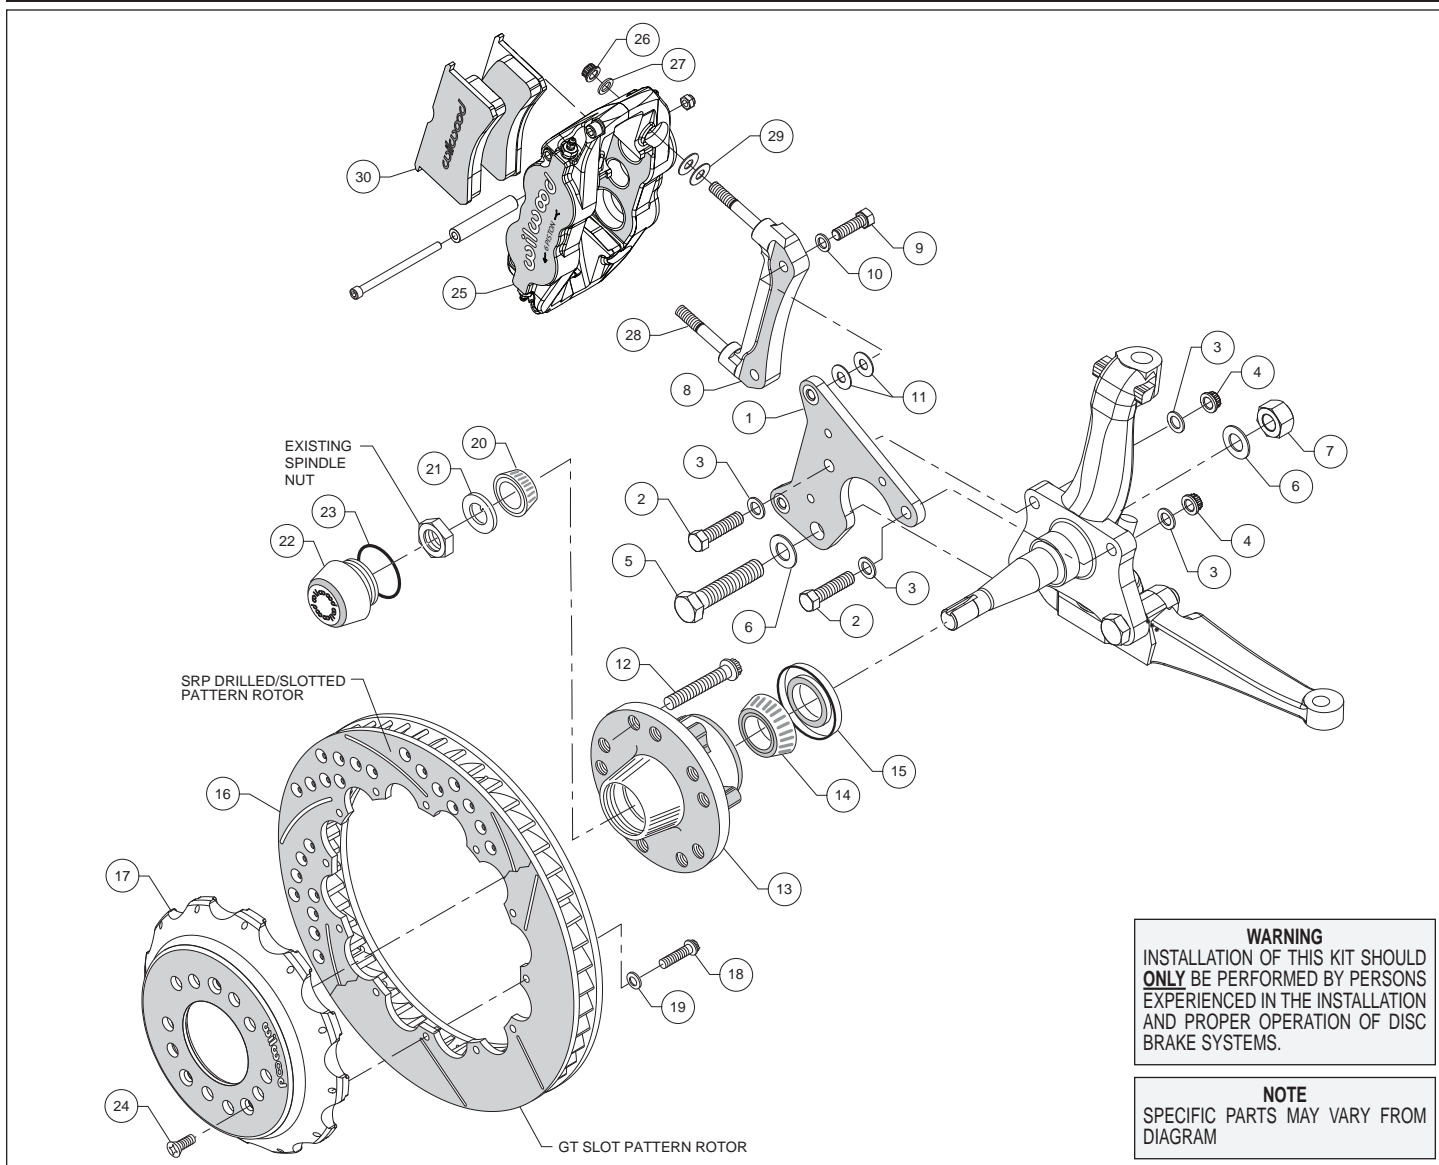
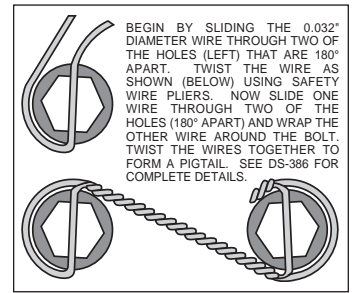

Figure 1. Typical Installation Configuration
Figure 3. Safety Wire Diagram
Assembly Instructions (numbers in parenthesis refer to the parts list and Figure 1 on the preceding pages): **CAUTION:** All mounting bolts must fully engage clinch nuts. Be sure to check that all bolts are protruding through flanged side of clinch nut after shimming.
- Orient the spindle bracket (1) as shown in Figure 1 and Photo 1, and install using bolts (2), washers (3), and nuts (4) on the top holes and bolt (5), washers (6), and nut (7) on the bottom hole, Figure 1 and Photo 1. Temporarily tighten the mounting bolts. Ensure that the flanged heads of the clinch nuts in the bracket are facing outboard, Photo 1. **NOTE:** The bracket must fit squarely against the mounting points on the spindle. Inspect for interference from casting irregularities, machining ridges, burrs, etc. Remove nuts one at a time, apply red *Loctite*® 271 to bolt threads and torque nuts (4) to 47 ft-lbs. and nut (7) to 140 ft-lbs.
- The caliper mount radial bracket (8) should initially be installed with clean, dry threads on the mounting bolts. Orient the bracket as shown in Figure 1, and Photo 2. Install onto the spindle bracket using bolts (9), and washers (10). Initially place two .035 thick shims (11) on each bolt between the radial and spindle brackets, Figure 1. Temporarily tighten the mounting bolts. Later, after the caliper alignment has been checked, the mount bolts will be secured using red *Loctite*® 271.
- Install wheel studs (12) into the hub (13), Photo 3. Torque to 77 ft-lb. **NOTE:** There are two five lug patterns in the hub (5 x 4.50 and 5 x 4.75). Ensure the correct hub stud pattern is being used to fit the wheel application.
- Pack the large inner bearing cone (14) with high temperature disc brake bearing grease (available from your local auto parts store) and install into the backside of the hub (13), Photo 4.
- Install the grease seal (15) by pressing into the backside of the hub (13), flush with the end of the hub, Photo 4.
- Orient the rotor (16) and the hat (17) as shown in Figure 1 and Photo 5. Attach rotor to hat using bolts (18) and washers (19). Using an alternating sequence, apply red *Loctite*® 271 to the threads, and torque to 155 in-lbs. For an added measure of security, the bolts may be safety wired using standard 0.032 inch diameter stainless steel safety wire as shown in Figure 3. Refer to Wilwood's data sheet DS-386 for complete safety wire installation instructions.
- Pack the small outer bearing cone (20) with high temperature disc brake bearing grease and install into hub (13). Slide the hub
- NOTE:** *This kit contains distinct right and left hand calipers that must be mounted in a specific direction, as described below.* Lubricate the caliper mounting studs (28) with lightweight oil. Initially place two .035" thick shims (29) on each stud between the caliper and the bracket, as shown in Figure 1 and Photo 8. Mount the caliper (25) onto the bracket (8) using lock nuts (26) and washers (27), Figure 1. Ensure that the caliper is mounted so the largest pistons are at the rotor exit end of the caliper, in relation to the direction of rotor rotation. Temporarily tighten the lock nuts and view the rotor through the top opening of the caliper. The rotor should be centered in the caliper, Photo 9. If not, adjust by adding or subtracting shims (11) between the spindle bracket (1) and the caliper mount bracket (8). Always use the same amount of shims on each of the two mounting bolts. Once the caliper alignment is correct, remove the radial bracket mounting bolts one at a time, apply red *Loctite*® 271 to the threads, and torque to 40 ft-lb. **NOTE:** *The end of the bolts must be flush with, or protruding through, the head of the clinch nut.*